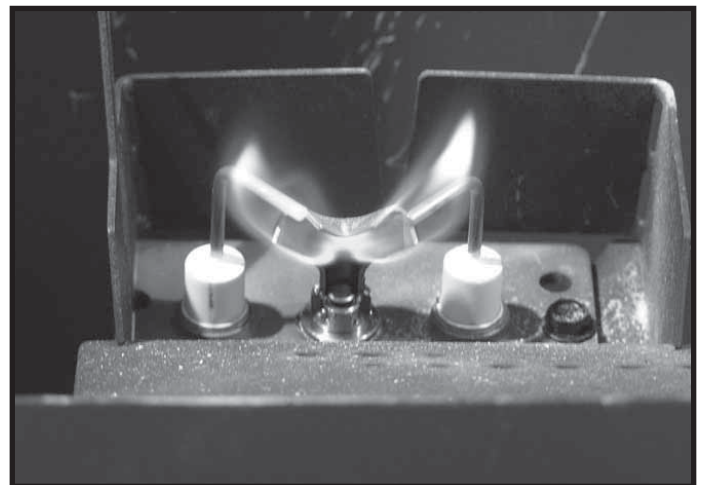

Figure 3.1 IPI Flame Patterns
- Inspect pilot flame pattern and strength. See Figure 3.1 for proper pilot flame pattern. Clean or replace orifice spud as necessary.